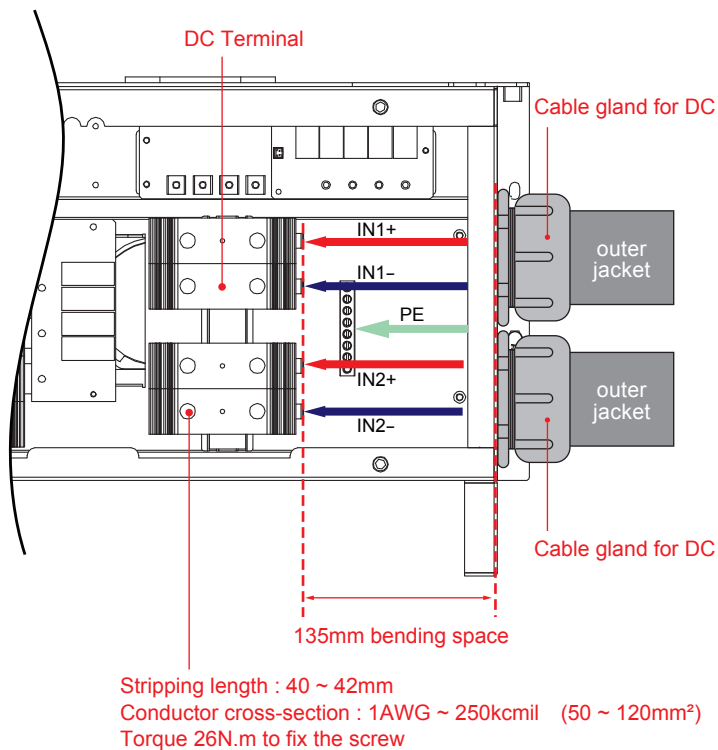

Figure 3-14 : Location for DC terminals for M88H_121
- DC Terminals connection as seen in **Figure 3-14**.